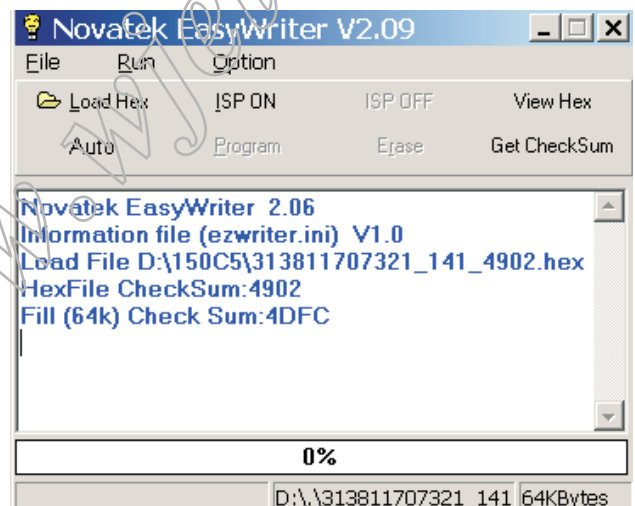

Fig. 11
4. Press the AUTO to running program , the firmware be updated as shown in Fig. 11~12.